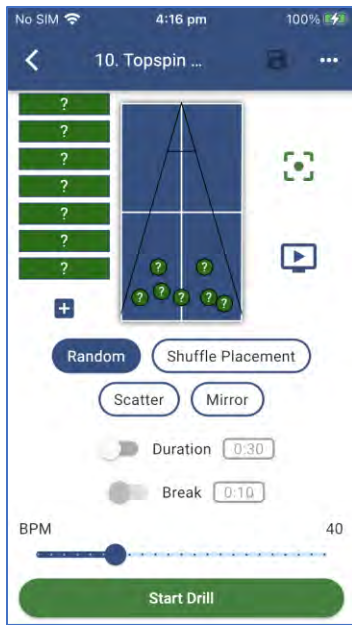

Figure 3-51
- Random** - Plays the balls of a Drill, in a random order. When Random is selected, the Ball Selector numbers turn into question marks. (Figure 3-51)